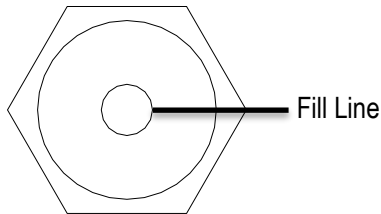

Figure 8
4. Start the unit and run for several minutes. Shut the air compressor down and check the oil level. If necessary, add more oil. (Figure 8)